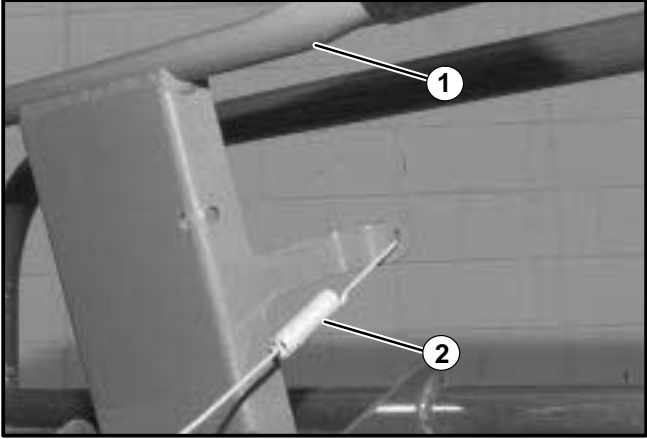

FIGURE 4
9. Connect clutch cable to clutch spring and spring to clutch handle. See Figure 4.